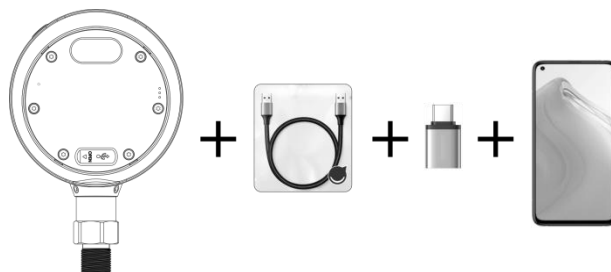

Figure 23 Connect to cellphone through the adapter
(3) Use the adapter to charge the device by cellphone (the cellphone must support TYPE-C OTG), as shown in Figure 23, connect the adapter to the TYPE-C port of the cellphone, and then use the TYPE-C cable to connect to the device, to charge the device by cellphone.